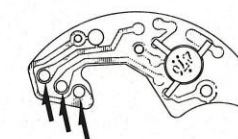

Fig. 4-17
- 2) Clean the pattern of the circuit block (arrow position in Fig. 4.17)